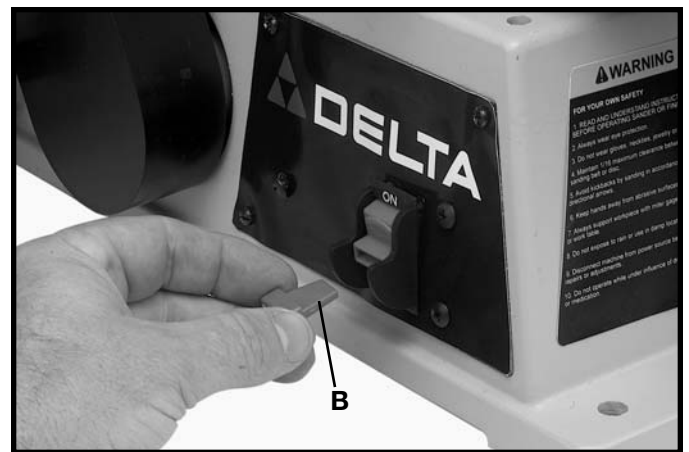

Fig. 23
IMPORTANT: When the machine is not in use, the switch should be locked in the “OFF” position to prevent unauthorized use. This can be done by grasping the switch toggle (B) Fig. 23, and pulling it out of the switch as shown. With the switch toggle (B) removed, the switch will not operate. However, should the switch toggle be removed while the machine is running, it can be turned “OFF” once, but cannot be restarted without inserting the switch toggle (B).